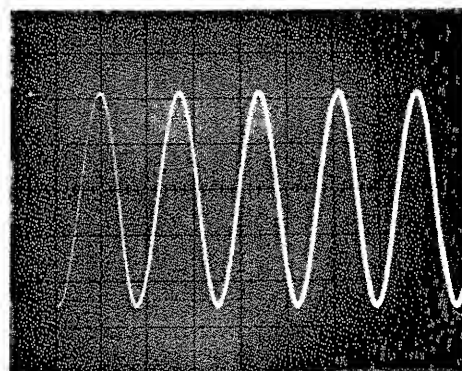

Figure 3-4. Variable persistence with a slow, repetitive sweep
b. For variable persistence operation, use minimum INTENSITY and maximum PERSISTENCE compatible with desired display (figure 3-4).